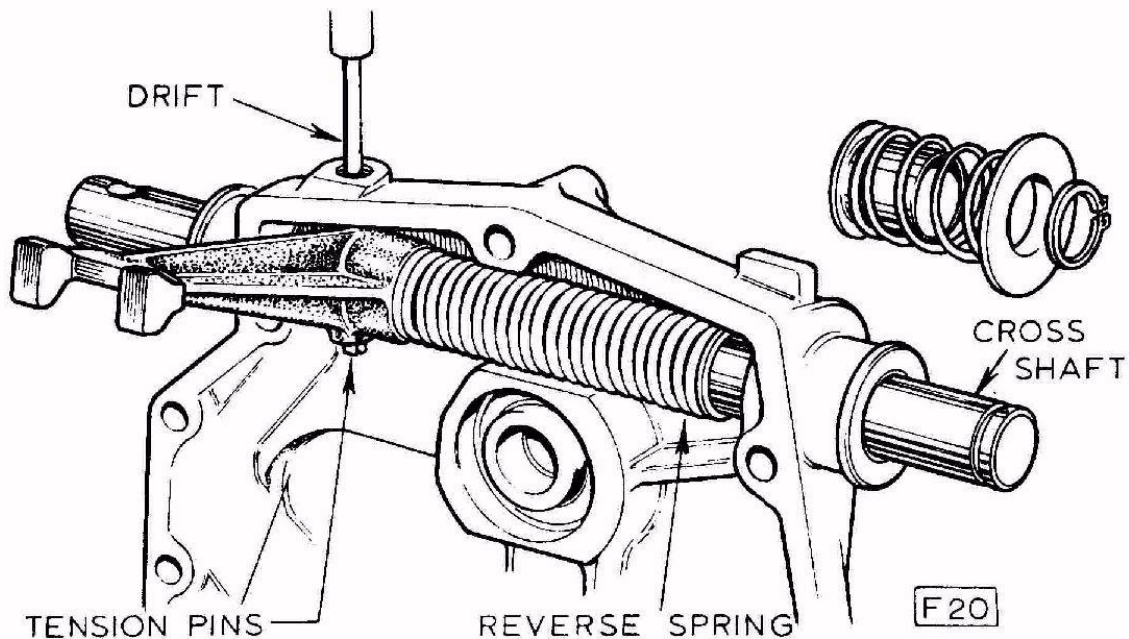

Fig. 106 Removing Cross-shaft
4. Remove the rear selector housing from back of gearbox (see Page 11 and 19). Remove the breather from the top of the housing. Pull off rubber boots from each end of cross-shaft and release circlip securing the return spring. Pull off spring abutment, spring and cup (Fig. 106).